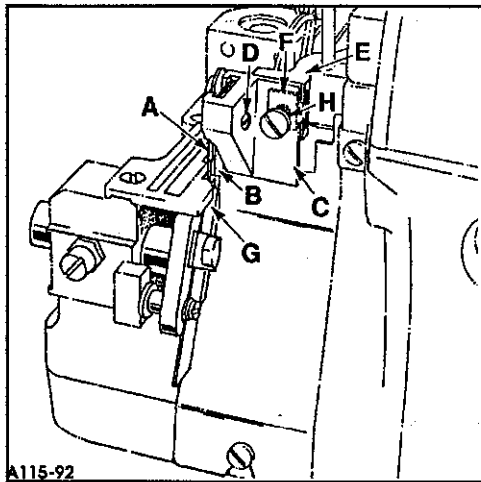

Fig. 16
Insert upper knife (A, Fig 16) and clamp bar (B) into upper knife holder (C) and snug screw (D). Turn handwheel in operating direction until upper knife driving arm (E) is at its lowest point of travel. Insert upper knife clamp nut (F) and upper knife holder (C) into upper knife driving arm slot holding it firmly against lower knife (G). Position the front cutting edge of the upper knife so it is 1/64" to 1/32" (.4mm to .8mm) below the cutting edge of the lower knife. Tighten screw (D). Slide upper knife holder (C) right or left until the desired seam width is achieved and tighten screw (H).